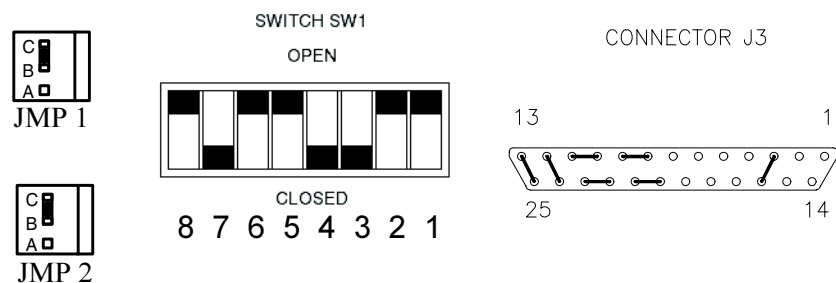

Figure 2.9 Local Mode Default Configuration
- Local Mode Default Configuration** Figure 2.9 shows the default factory settings for the internal jumpers JMP1 and JMP2, for switch SW1, and for rear panel connector J3. These controls are used to select among the various options for programming, sensing, and monitoring. See “Configuring for Remote Programming, Sensing, and Monitoring” on page 48.